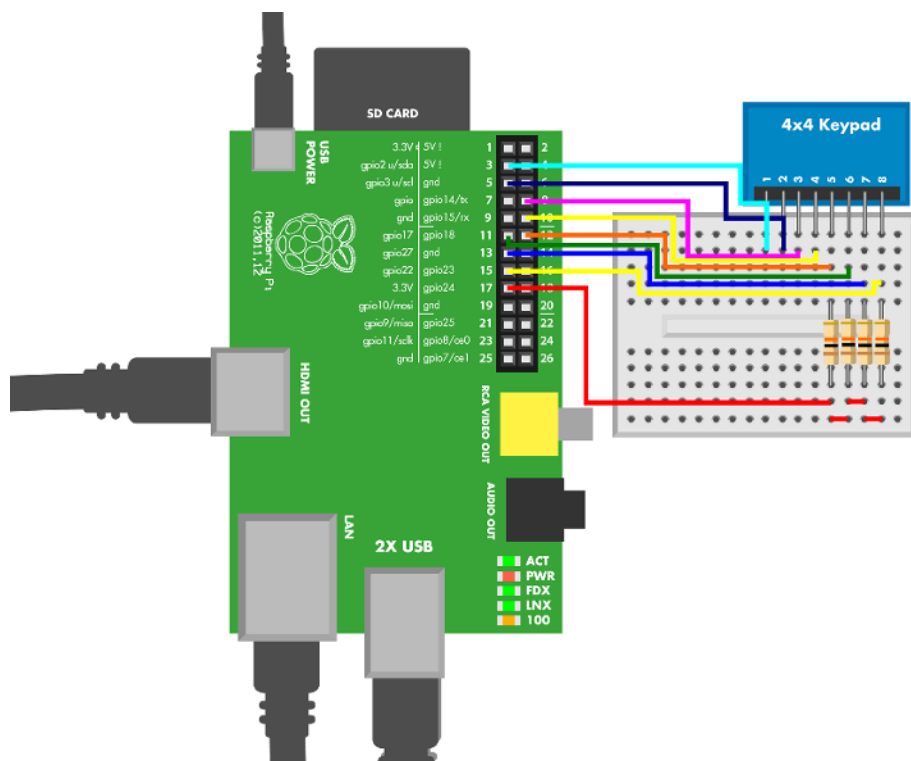

Figure 9-3. Keypad connected to Raspberry Pi
Figure 9-3 shows the wiring diagram for Raspberry Pi. Hook everything up as shown, and run the program in Example 9-2.
- ❶ Make sure there's a copy of the *botbook_gpio.py* library in the same directory as this program. You can download this library along with all the example code from <http://botbook.com>. See “GPIO Without Root” on page 19 for information on configuring your Raspberry Pi for GPIO access.
- ❷ Map the key's physical position (e.g., row 1, column 0) to a key label (“4”).
- ❸ Map a column number (e.g., 2) to a gpio pin (gpio 14).
- ❹ Check that the keypad is not read more often than once every 30 ms. The check is useful when you start using `getKeyPress()` in your own programs. In this example, the `main()` function calls `getKeyPress()` so rarely that the check is redundant. The `time.time()` function returns the time as seconds since the Unix epoch, such as 1376839738.068395. This is compared with the time of the last keypress read, also stored as seconds since the epoch. The epoch is 00:00:00 UTC on January 1, 1970.
- ⑤ Take one column (vertical) LOW. Others are left HIGH.
- ⑥ If a row became LOW, other rows are pulled HIGH by the physical pull-up resistor, as you can see in Figure 9-3.
- ⑦ The key that was pressed is at the intersection of LOW column and LOW row.
- ⑧ Put the column back to "in" mode, so that it's high impedance (off) and doesn't affect the measurements.
- ⑨ Break out of the for loop (because a pressed key was found).